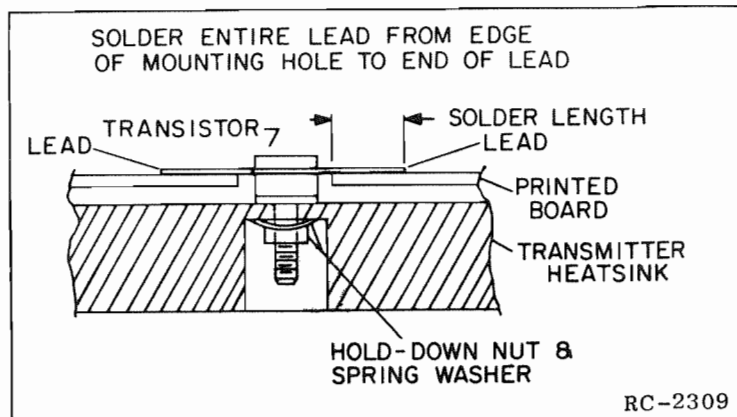

Figure 8 - Lead Forming
6. Make sure that the transistor leads are formed as shown in Figure 8 so that the leads can be soldered to the printed circuit pattern, starting from the inner edge of the mounting hole.